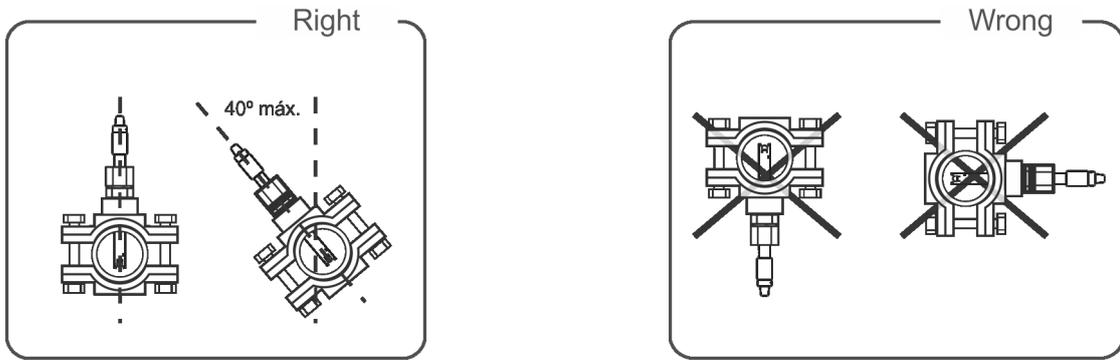

Fig. 8
4. **Install always the electrodes vertically or with a maximum inclination of 40°.** (Fig. 8).